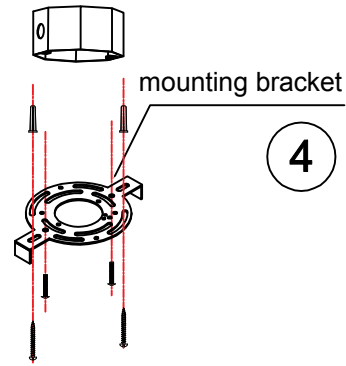

Fig.2
4. Mark ceiling and install ceiling anchors. Attach mounting plate to junction box and attach screws to ceiling anchors for added support (Fig. 2)